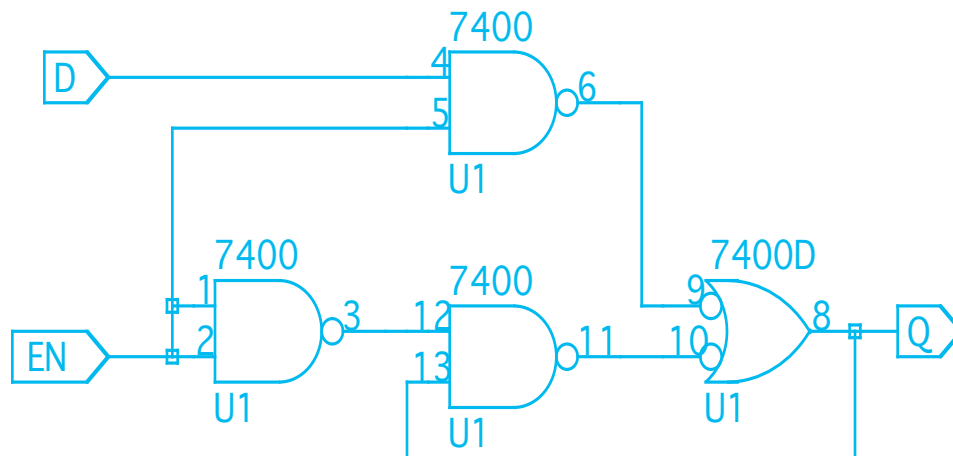
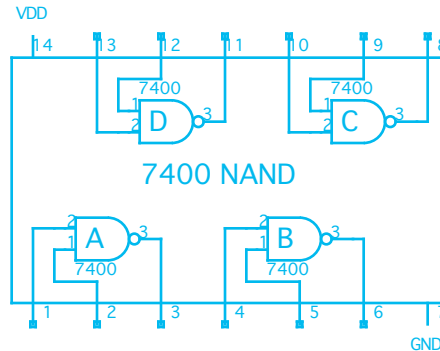

Figure 4-38 Latch Built Using NAND gates
Figure 4-39 Pinout of TTL 7400 Quad NAND Gate
Figure 4-38 shows a circuit equivalent to Figure 3-17 that is composed of two-input NAND gates. The OR gate at the output of the latch is a DeMorgan equivalent of a NAND gate. This is indicated by the two bubbles on the inputs of the OR gate. Because the bubbles on the outputs of the NAND gates cancel those on the inputs to the OR gate, the circuit is logically the same as the latch shown in Figure 3-17.
Two symbols are needed for the latch circuit shown in Figure 4-38. One is a standard NAND gate and the other is the DeMorgan equivalent NAND that shows an OR function. The following explanation of how to create these symbols assumes the standard pinout for a 7400 NAND gate as shown in Figure 4-39.
Use the following procedure to create the latch schematic as shown in Figure 4-38.
2. Place the four instances as shown in Figure 4-38. All four symbols display pin numbers from the A section of the quad NAND gate. That is, they all have pin numbers of 1, 2, and 3.
3. Wire the circuit to look like Figure 4-38.